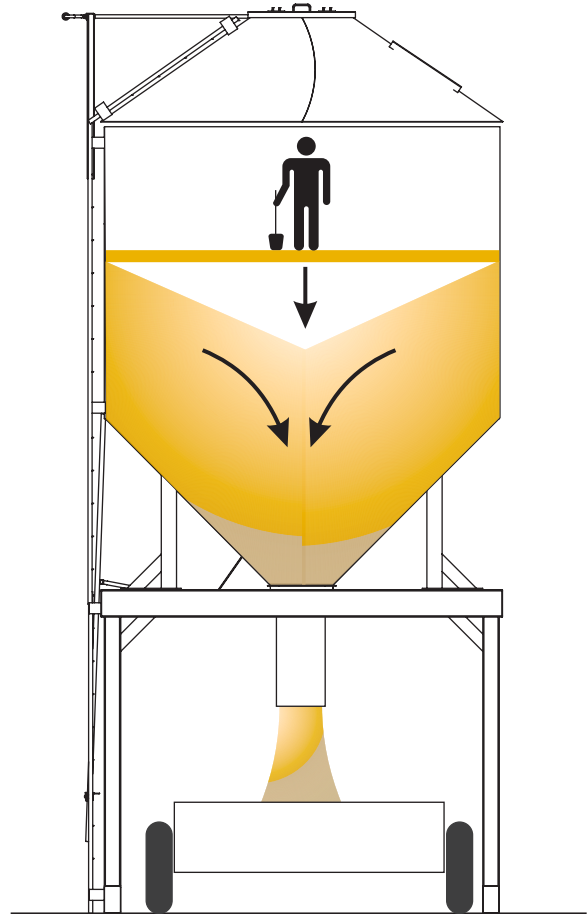

Figure 2-2 – Grain Bridge Entrapment
- Walk on what appears to be solid grain to make it flow (Figure 2-2). This condition may be a “grain bridge” which can collapse, dropping the worker into a potential hollow cavity.